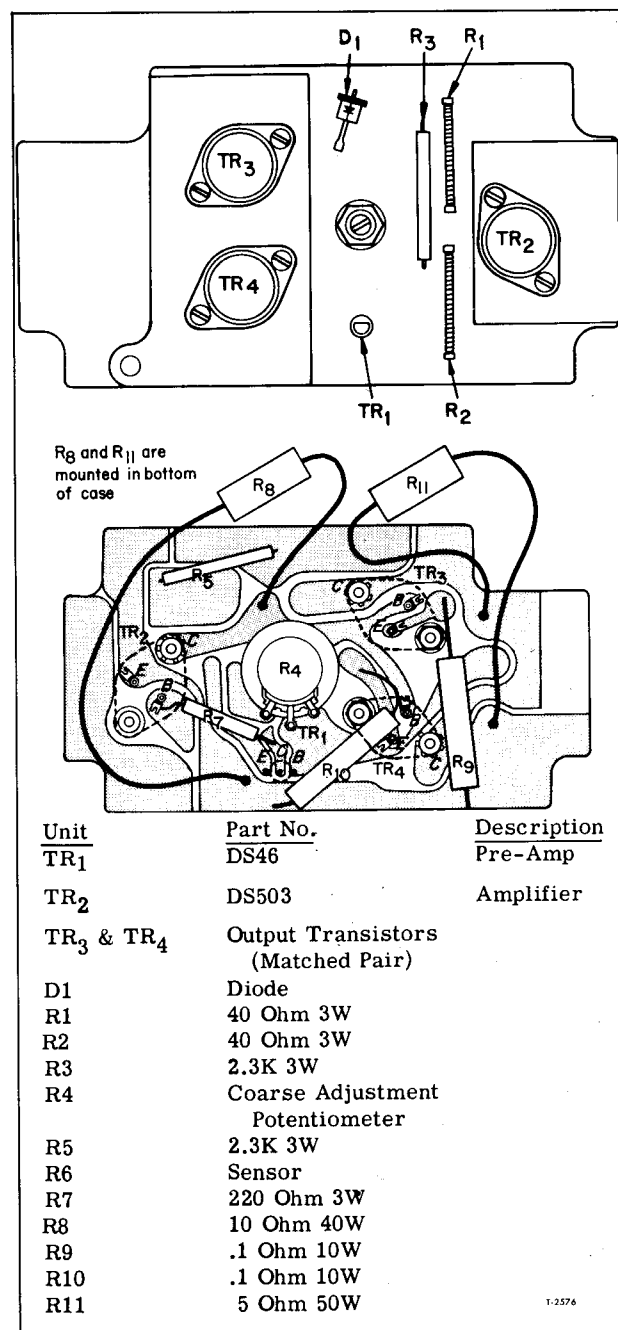

Figure 14—Component Placement on Printed Circuit Board
g. Resistor R11 can be measured in the circuit and should read approximately 5 ohms. Refer to figure 14 for the position of R11.